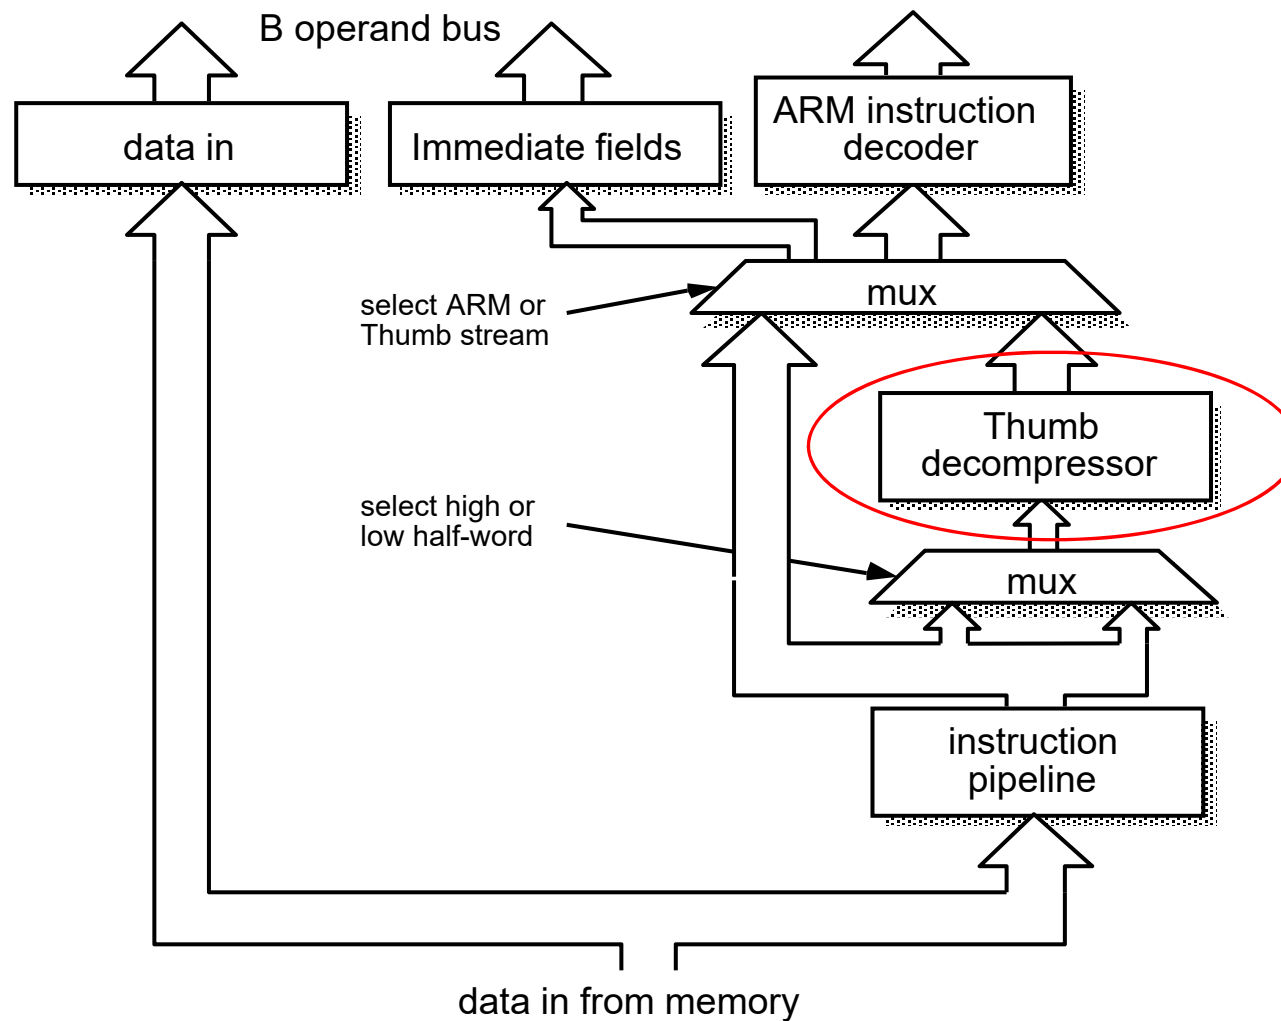

Fig. 7.8 The Thumb instruction decompressor organization
- This logic translates a Thumb instruction into its equivalent ARM instruction (Fig. 7.8)